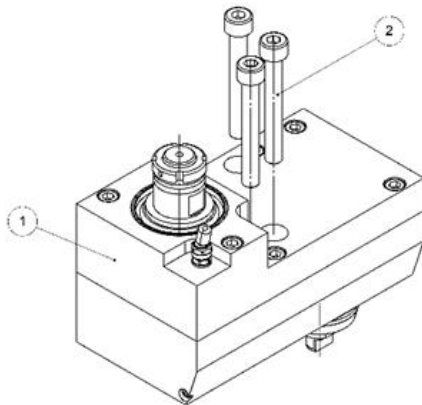
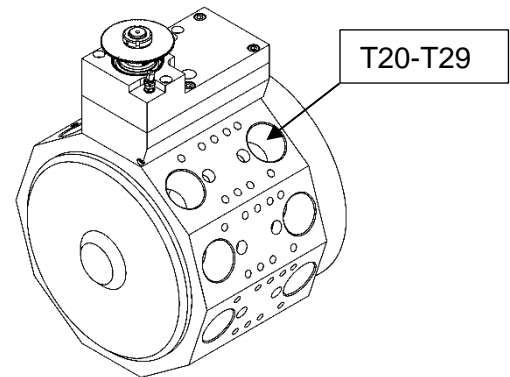

Figure 1
Figure 2
To fix the tool holder (fig. 1, pos. 1), center the shank in positions T20 to T29 on the machine (fig. 2). Tighten the 3 M8 screws (fig. 1, pos. 2).